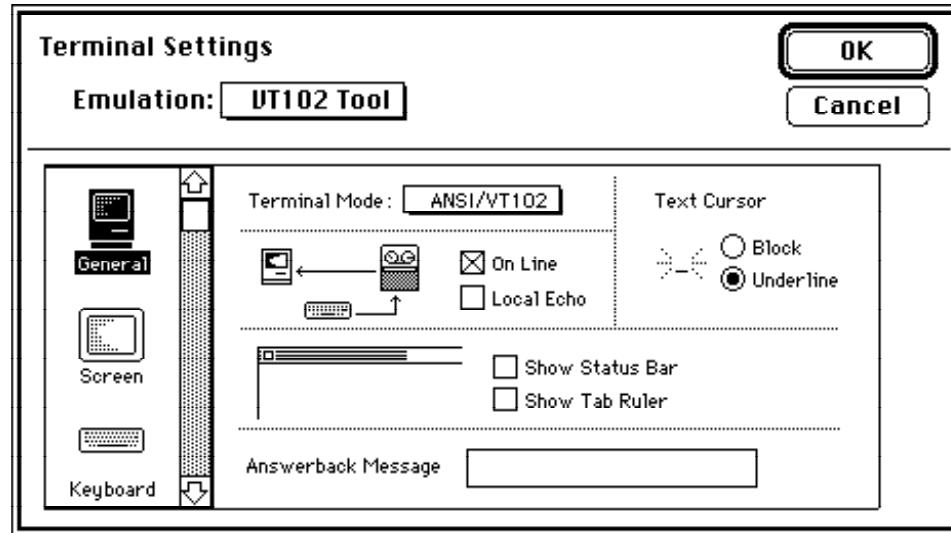

Figure 2
4. Configures the tool. You can present users with a standard tool-settings dialog box by calling **CMChoose**, **TMChoose**, or **FTChoose**, or you can set the configuration directly using a configuration string. Figure 2 shows the dialog box that is put up in response to a call to **TMChoose** while the VT 102 tool is active.